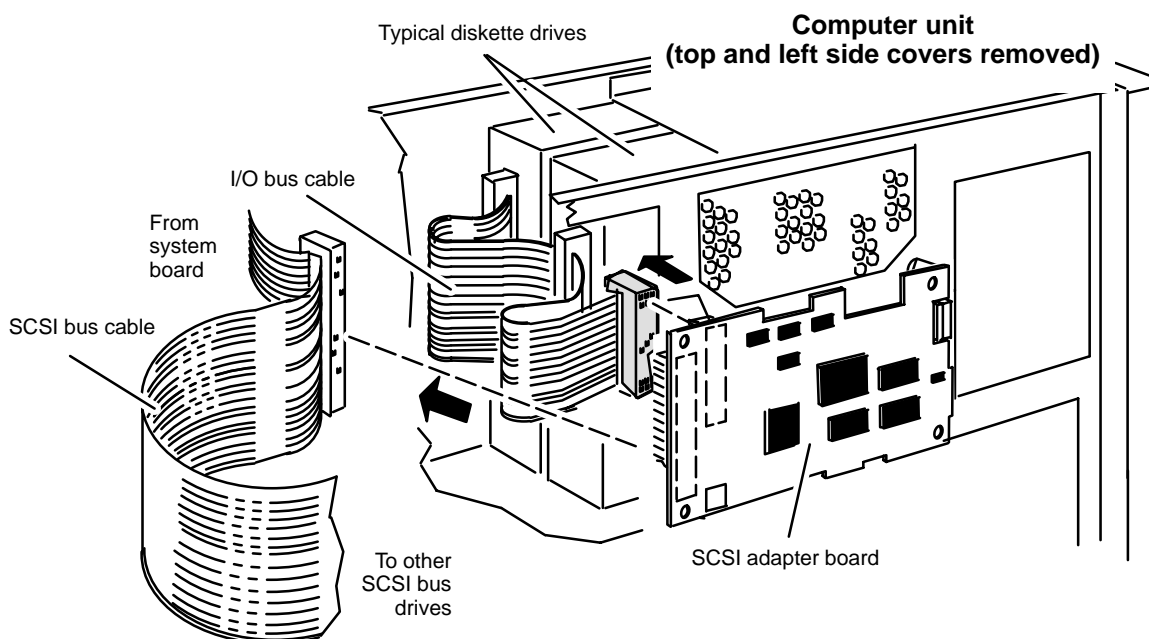

Figure 7-14 Unplugging the SCSI Bus and I/O Bus Cables from the SCSI Adapter Board
1. Unplug the SCSI bus and I/O bus cables from the SCSI adapter board as shown in Figure 7-14.